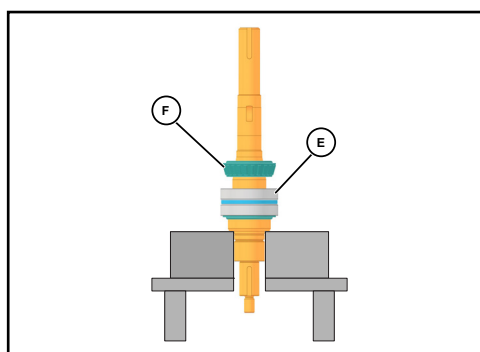

Figure 56 - Upper Cup & Upper Cone
7. Place the upper cup (Figure 56, item E) on top of the outer spacer.
8. Lubricate the remaining upper cone and roller assembly (Figure 56, item F) with oil or grease and slip it over the shaft with the roller radius facing up. Press it onto the shaft and into the upper cup.